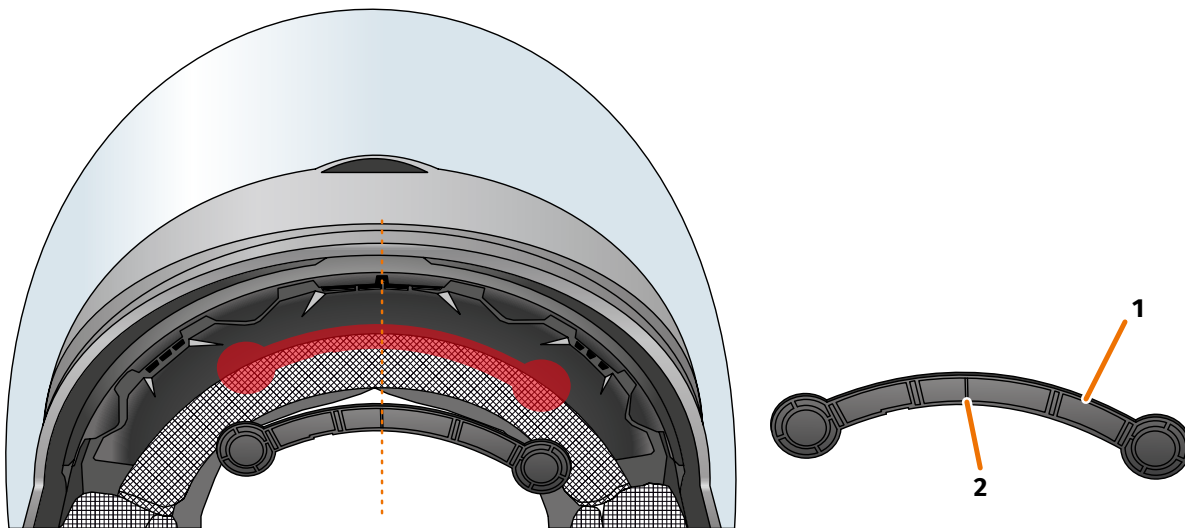

FIGURE 13: Using Sugru to glue in the narrow helmet adapter
8. Place the helmet adapter (FIGURE 13/1) in the forehead section of the helmet, between the inner shell and the outer shell (FIGURE 13/shown in red). There is a mark at the bottom of the helmet adapter (FIGURE 13/2) that should be placed on an imaginary line between the middle of the helmet and the middle of your face (FIGURE 13/dotted line). Make sure the helmet adapter does not collide with the sun visor.